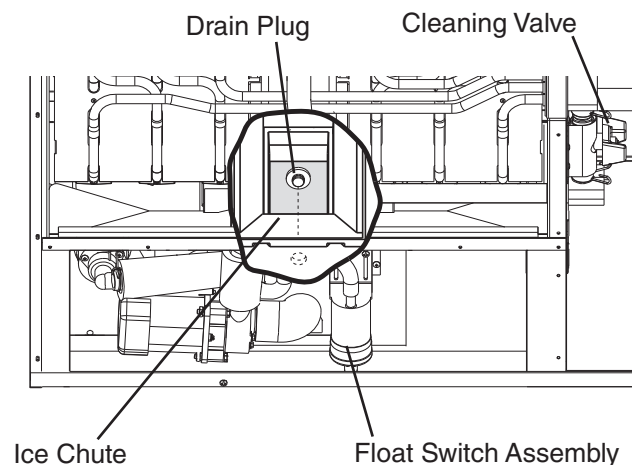

Fig. 16
- 7) Remove the insulation panel. Remove the drain plug located on the lower front part of the ice chute. See Fig. 16. Allow the water tank to drain.